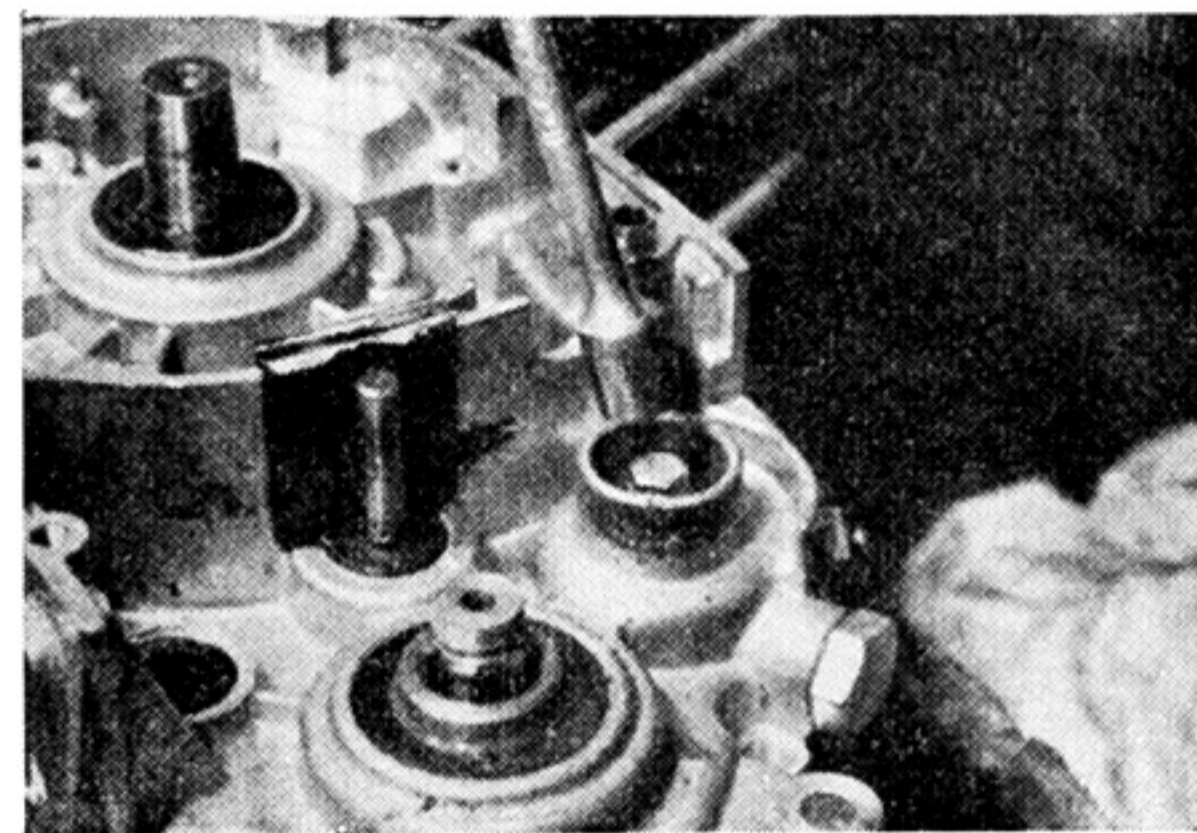

Fig. 3-15-3
- a. Remove the shifter drum mounting bolt from the left side of the crankcase. (Figs. 3-15-3 and 4)